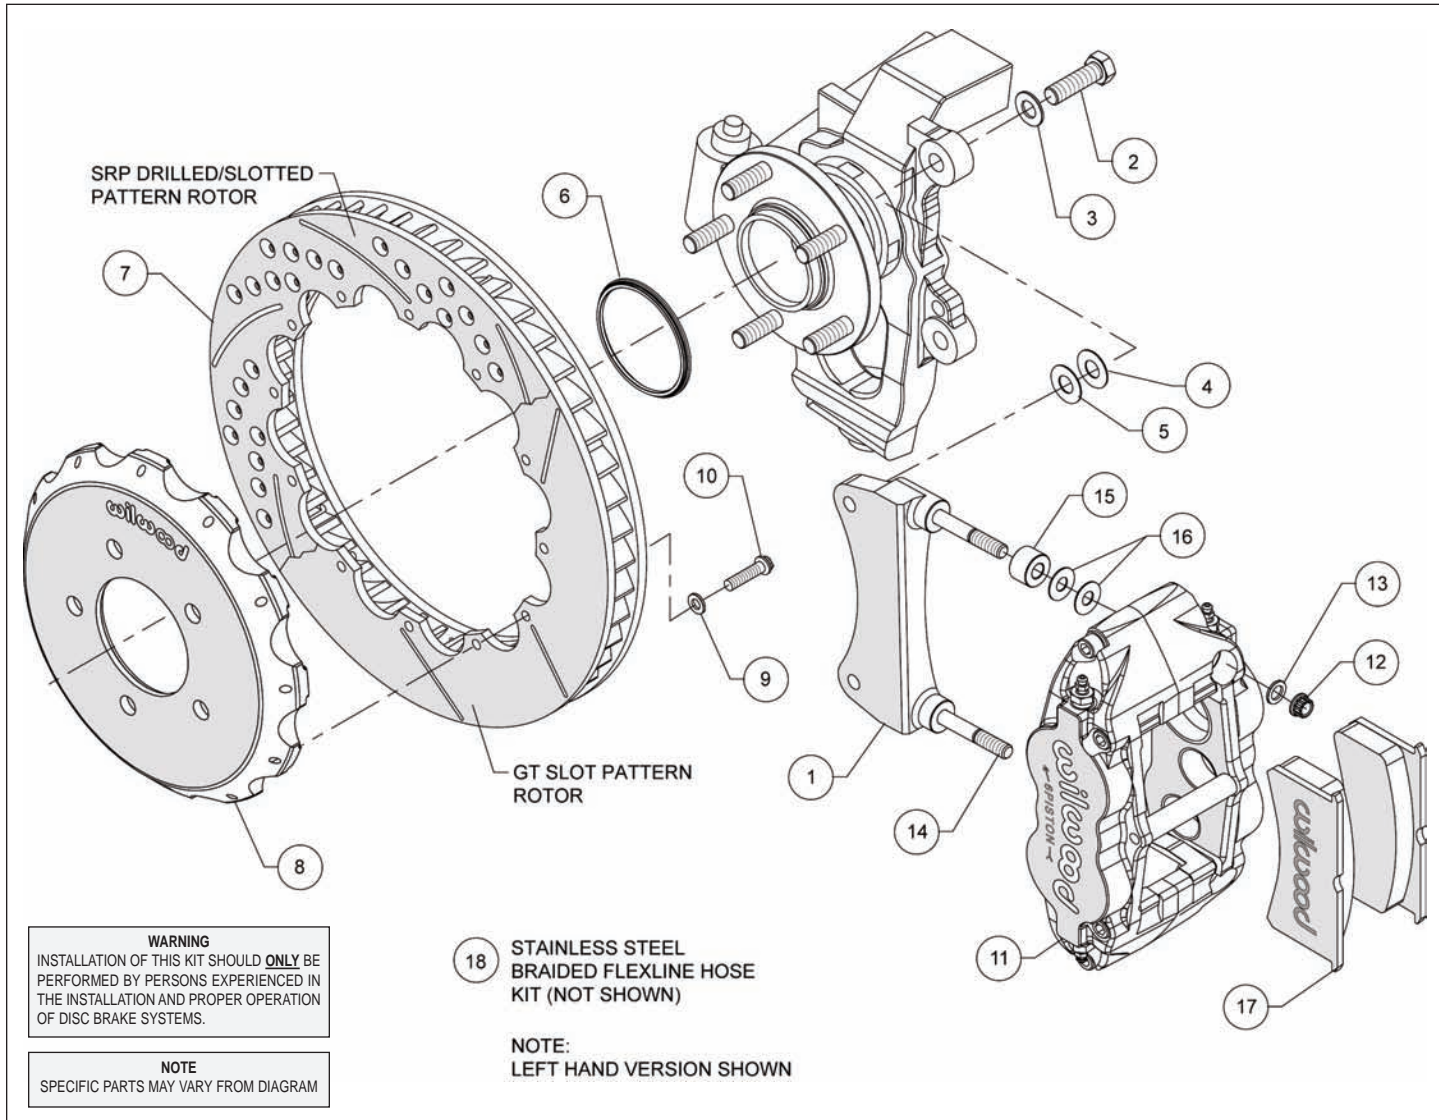
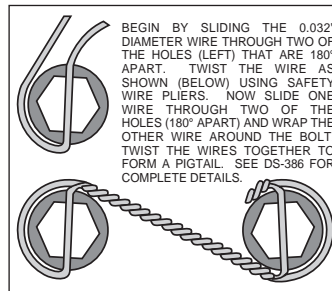

Figure 1. Typical Installation Configuration
Figure 3. Safety Wire Diagram
Assembly Instructions (numbers in parenthesis refer to the parts list and Figure 1 on the preceding pages):
- The caliper mount bracket (1) should initially be installed with clean, dry threads on the mounting bolts. Orient the bracket as shown in Figure 1 and Photo 1, and install using washers (3) and bolts (2). Initially place one .033 thick shim (4) and one .015 thick shim (5) on each bolt between the bracket and upright, Figure 1. Temporarily tighten the mounting bolts. **NOTE:** *The bracket must fit squarely against the mount bosses on the upright.* Inspect for interference from casting irregularities, machining ridges, burrs, etc. Later, after the caliper alignment has been checked, the mount bolts will be secured using red *Loctite*® 271.
- Orient the rotor (7) and the hat (8) as shown in Figure 1 and Photo 2. Attach rotor to hat using bolts (10) and washers (9). Using an alternating sequence, apply red *Loctite*® 271 to the threads, and torque to 155 **in-lbs**. For an added measure of security, the bolts may be safety wired using standard 0.032 inch diameter stainless steel safety wire as shown in Figure 3. Please refer to Wilwood's data sheet DS-386 (available at www.wilwood.com/Pdf/DataSheets/ds386.pdf) for complete safety wire installation instructions.
- Slide the rotor registration adapter (6) onto the axle register on the axle hub with the smaller O.D. facing outward, Photo 3. Slide the hat/rotor assembly onto the axle hub. **NOTE:** *The hat must fit flush against the axle hub flange or excessive rotor run out may result.* Install three lug nuts (finger tight) to keep the hat/rotor assembly in place while continuing with the installation.
- NOTE:** *This kit contains distinct right and left hand calipers that must be mounted in a specific direction, as described below.* Lubricate the caliper mounting studs (14) with lightweight oil. Initially place two .035" thick shims (16) and one spacer (15) on each stud as shown in Figure 1 and Photo 4. Mount the caliper (11) onto the bracket (1) using lock nuts (12) and washers (13), Figure 1. Ensure that the caliper is mounted so that the largest pistons are at the rotor exit end of the caliper, in relation to the direction of rotor rotation. Temporarily tighten the lock nuts and view the rotor through the top opening of the caliper. The rotor should be centered in the caliper, Photo 5. If not, adjust by adding or subtracting shims (4 and/or 5) between the bracket and the upright. Always use the same amount of shims on each of the two mounting bolts. Once the caliper alignment is correct, remove the bracket mounting bolts (2) one at a time, apply red *Loctite*® 271 to the threads, and torque to 60 ft-lb.